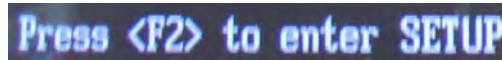

Figure 1-7. BIOS Prompt
2. Boot the PC and enter the BIOS Setup by pressing the **F2** key, as directed by the boot-up sequence (Figure 1-7).